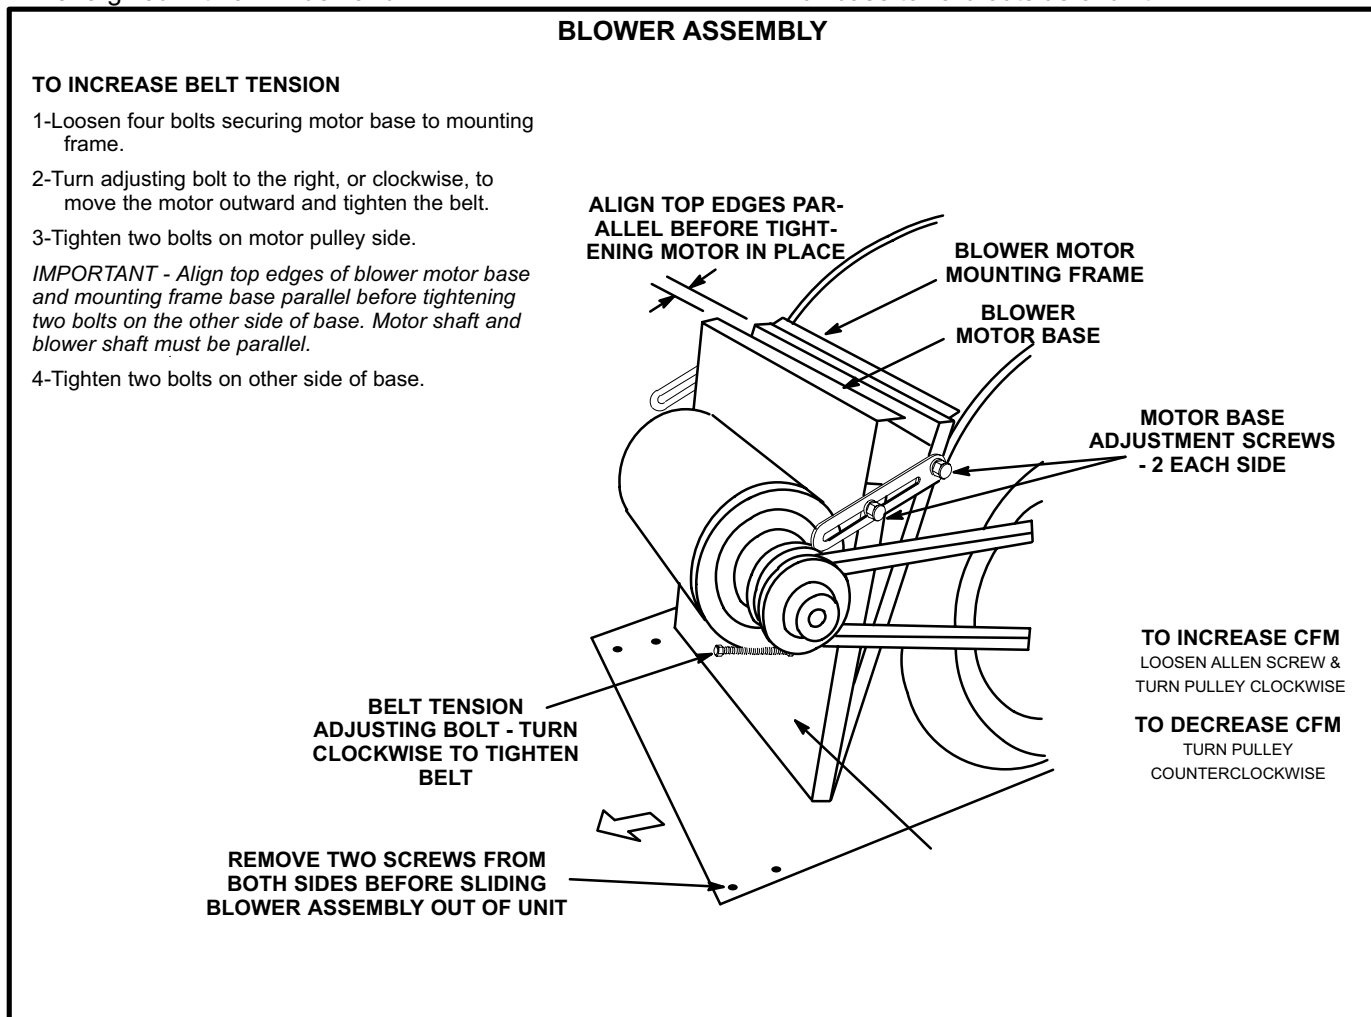

FIGURE 9
The blower assembly is secured to a sliding base which allows the entire assembly to be pulled out of the unit. See figure 9.
- 4- The blower RPM can be adjusted at the motor pulley. Loosen Allen screw and turn adjustable pulley clockwise to increase CFM. Turn counterclockwise to decrease CFM. See figure 9. Do not exceed minimum and maximum number of pulley turns as shown in table 6.
- 1- Loosen four bolts securing motor base to mounting frame. See figure 9.